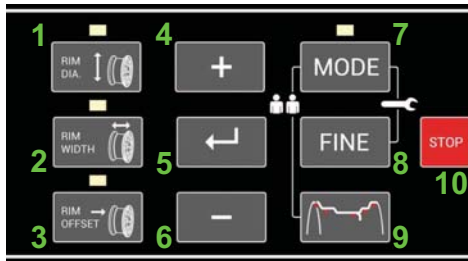

Figure 13a
Example for **code C0** (Fig. 13a)
- Press the **STOP** key (10, Fig. 13a) once to return to C codes selection, and a second time to definitively exit and return to the operating mode.